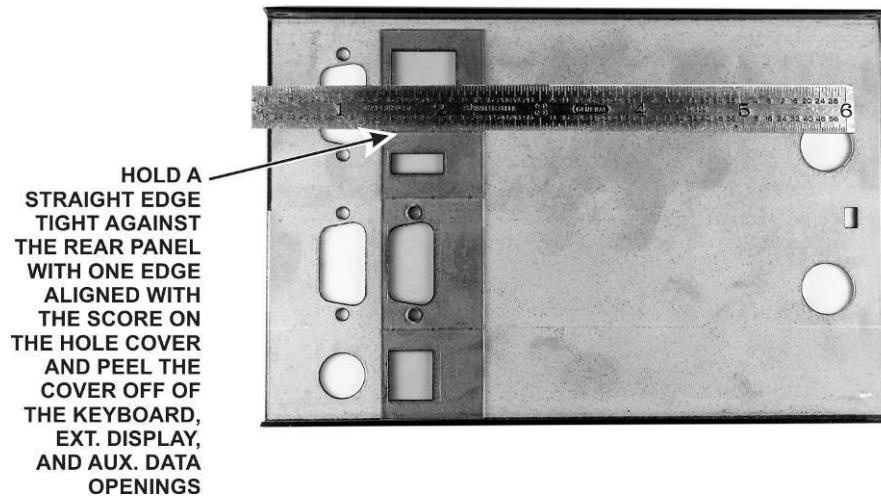

Figure 12. Preparing the Hole Cover to Install the P3SVGA Board.
- Place a straight edge along the scored line on the hole cover and peel away the unwanted parts, depending upon which options you are installing. Figure 12 shows how to remove the covers from the KEYBOARD, EXT. DISPLAY and AUX DATA connector openings to install the P3SVGA option.